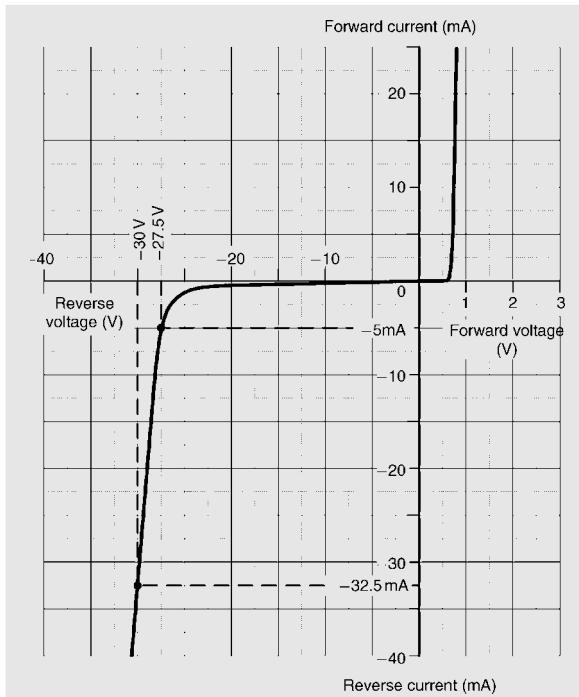

Figure 11.16
**Problem 7.** The characteristic of a Zener diode is shown in Fig. 11.16. Use the characteristic to determine (a) the current flowing in the diode when a reverse voltage of 30 V is applied, (b) the voltage dropped across the diode when a reverse current of 5 mA is flowing in it, (c) the voltage rating for the Zener diode, and (d) the power dissipated in the Zener diode when a reverse voltage of 30 V appears across it.